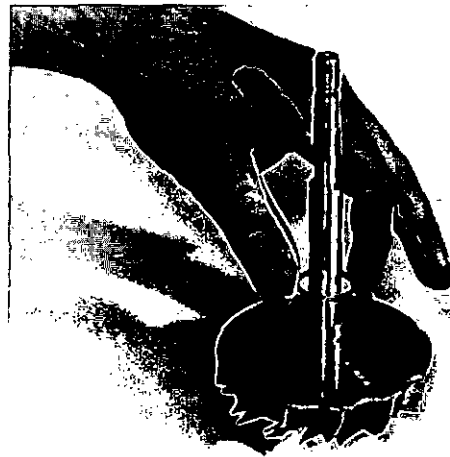

Fig. 2-5. (T3513). Installing the sealing ring onto the turbine wheel shaft
1. Position the sealing ring in the groove on the turbine end of the rotor shaft, Fig. 2-5.